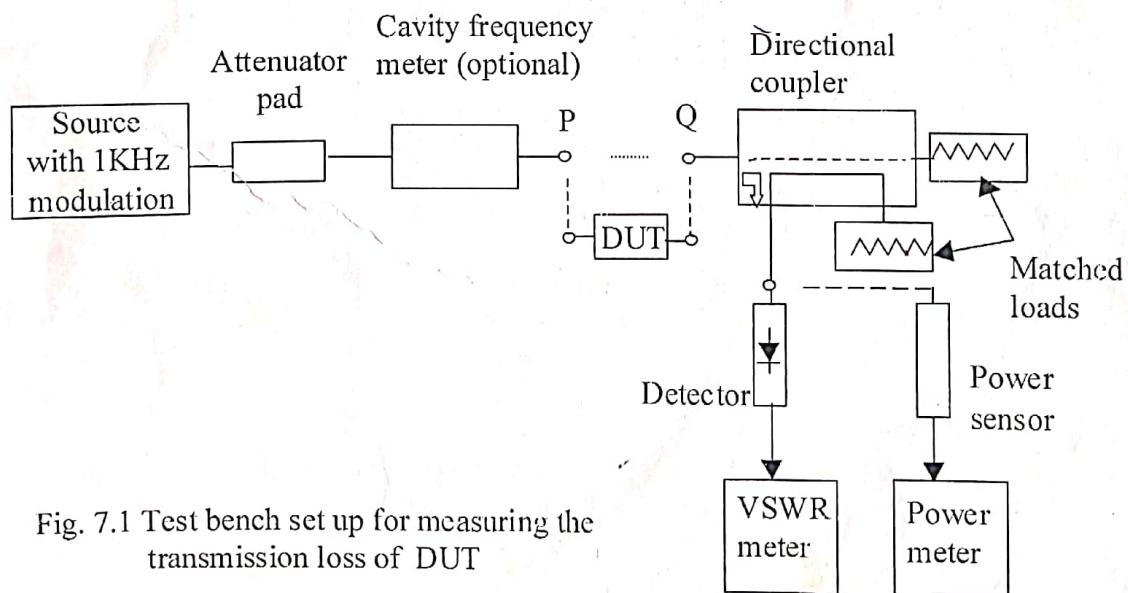

Fig. 7.1 Test bench set up for measuring the transmission loss of DUT
4. While making measurements involving large transmission loss of the DUT (e.g. measurement of isolation in a coupler or large stop band loss in a filter), the power level at the detector (with DUT connected) may not be sufficient to give stable reading (above noise level) on the VSWR meter. In such cases, the directional coupler can be removed from the set-up (shown in Fig. 7.1) and the detector (or the power sensor) can be connected directly to point Q.
1. Assemble the set up as shown in Fig. 7.1. Connect the output of the frequency meter directly to the directional coupler (connect P to Q directly).